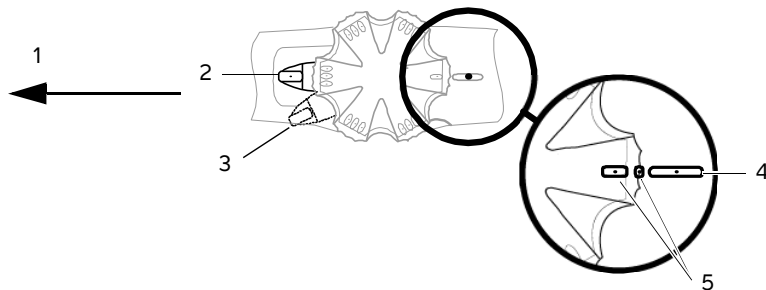

Figure 2-5 Tip flexion lock operation
The lock for anterior/posterior flexion is a handle located under the lower control wheel (see Figure 2-5). There is no lock for left/right flexion.
- ▶ To prevent damage to the patient’s esophagus when inserting or withdrawing the transducer, the control wheel must be in the freely moving, neutral, and unlocked state. See **Figure 2-5** on page 2-8.